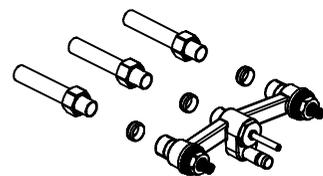

Fig. 2
- 2 Slide compression nuts onto the water supply lines and shower supply line followed by the compression rings. Push cast brass body onto copper lines so that the pipes seat fully into the body. Insure the body is oriented so that the spout outlet is below the diverter stem. (see Fig. 2)